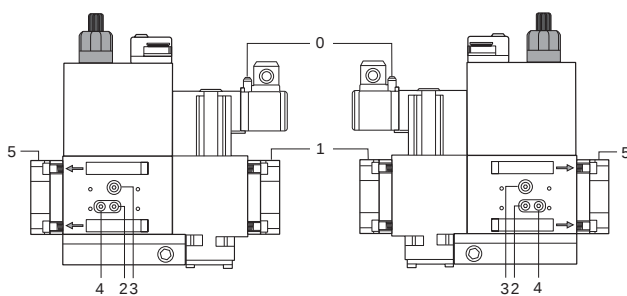
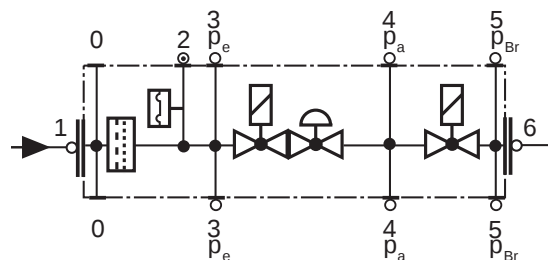

Fig. 32
Fig. 33
- Check and clean the gas filter cartridge (see Fig. 32), replace it if necessary;
- Change the filter if the pressure difference between pressure connection 1 and 2 (Fig. 32-Fig. 33)  $\Delta p > 10$  mbar.
- Change the filter if the pressure difference between pressure connection 1 and 2 (Fig. 32-Fig. 33) is twice as high compared to the last check.